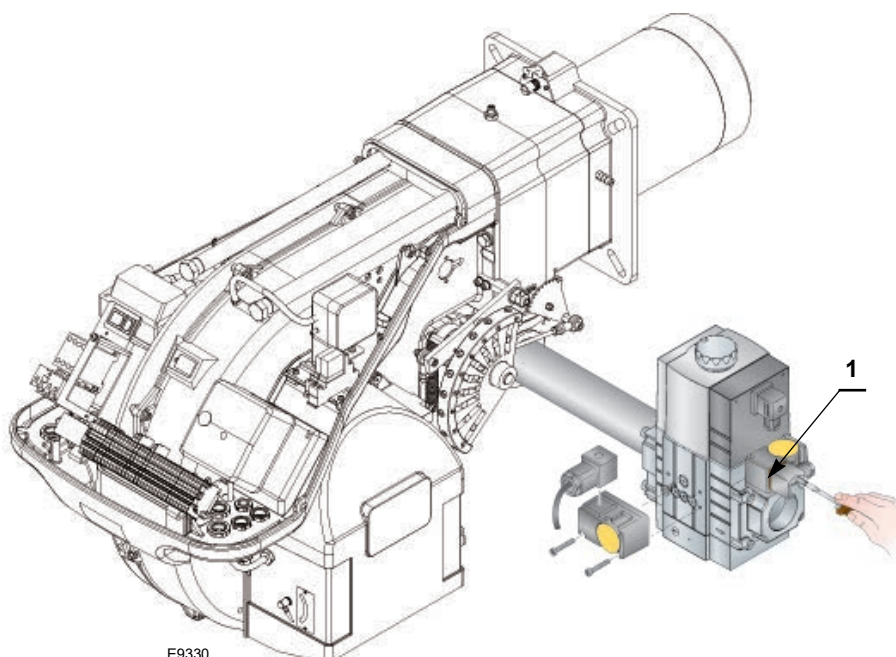

Fig. 23
- Check the gas supply pressure by connecting a pressure gauge to the pressure test point 1)(Fig. 23) of the minimum gas pressure switch: it must be lower than the maximum allowed pressure of the gas train, as shown on the characteristics label.
- Bleed the air from the piping of the gas train, connecting a plastic tube to the pressure test point 1)(Fig. 23) of the minimum gas pressure switch. Take the vent tube outside the building so you can notice the smell of gas.